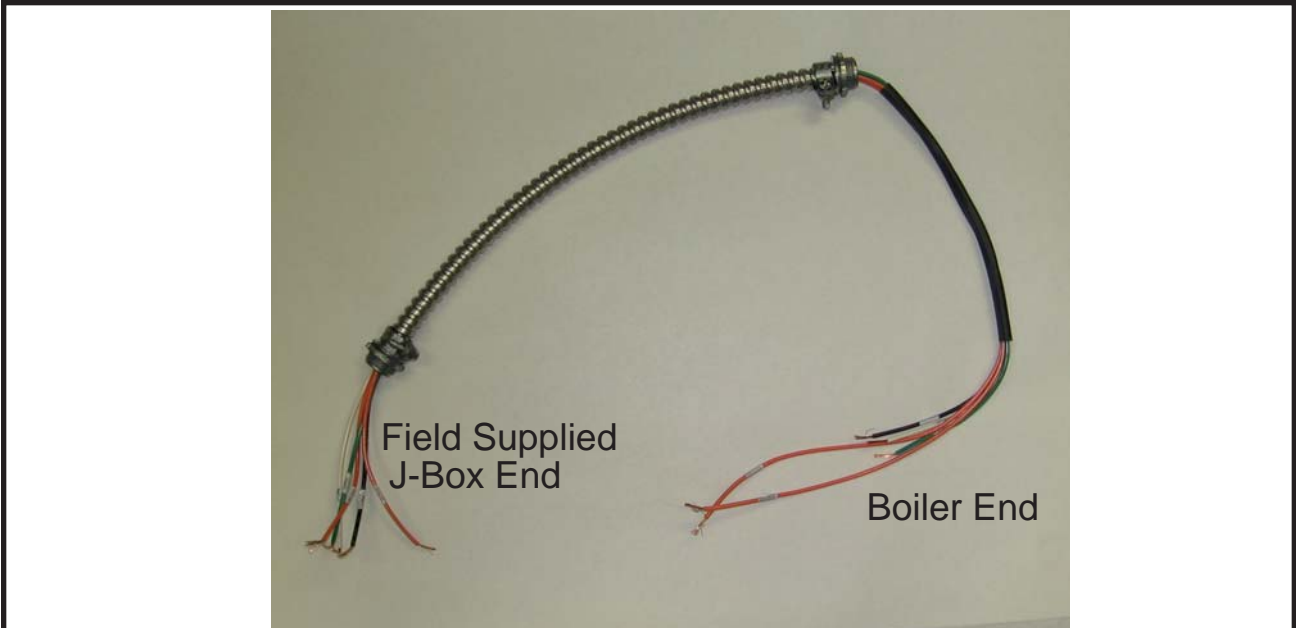
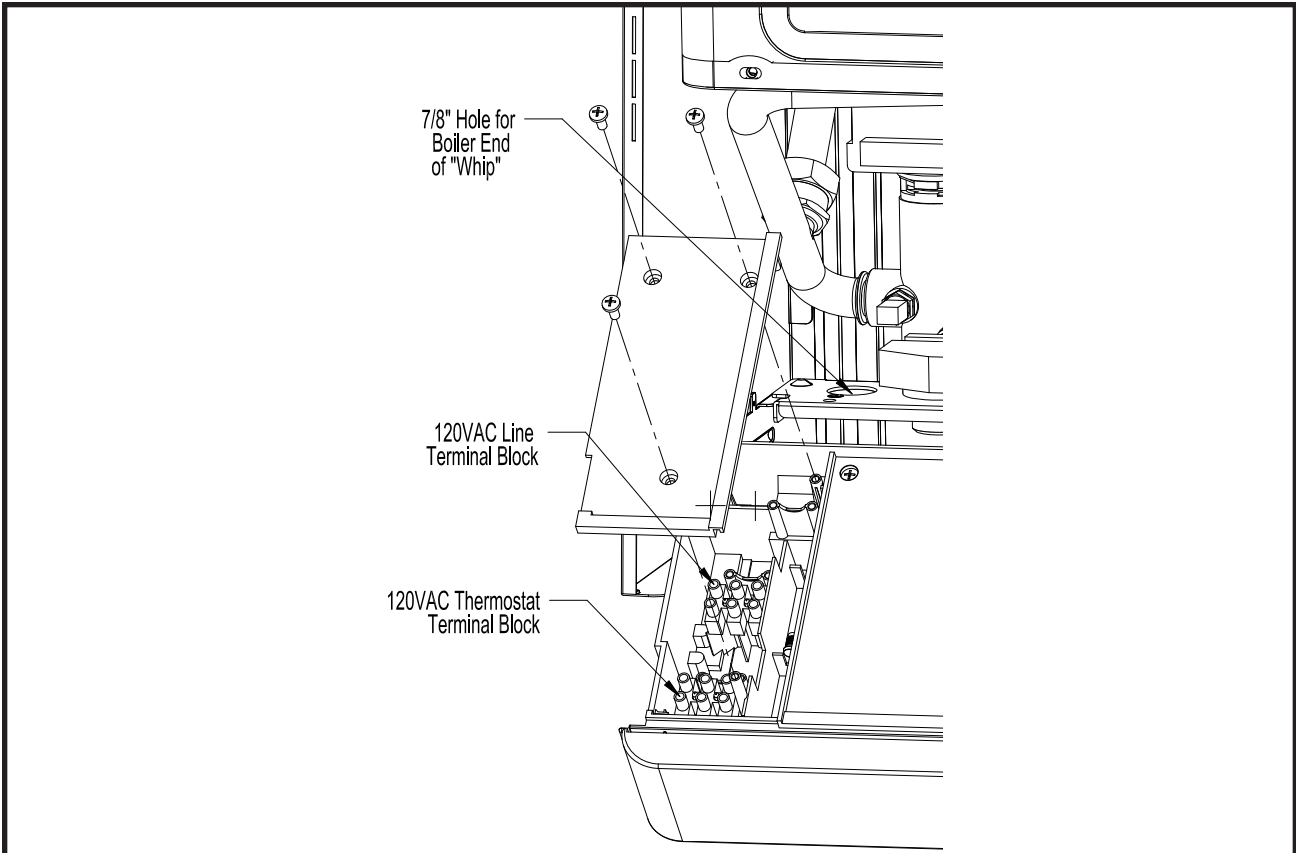

Figure 11.2: "Whip"
Figure 11.3: Location of Terminal Blocks and 7/8 Hole for Whip
- 2) Crown supplies the “Whip” shown in Figure 11.2 to route the power and thermostat wiring from an installer supplied junction box into the boiler’s control box. This Whip is designed to provide proper strain relief at the boiler and also permits the control box to be easily slid in and out of the boiler with all wiring connections intact. A 7/8 hole is located in the metal rail behind the control box as shown in Figure 11.3. Power and thermostat wiring is routed into the boiler from underneath (Figure 11.5) and the BX connector on the “boiler end” of the Whip is secured in this 7/8” opening.
- 4) Two terminal blocks are located in the electrical connection compartment: one for power connections and one for the thermostat connections. Figure 11.3 shows the location of these terminal blocks in the connection compartment.